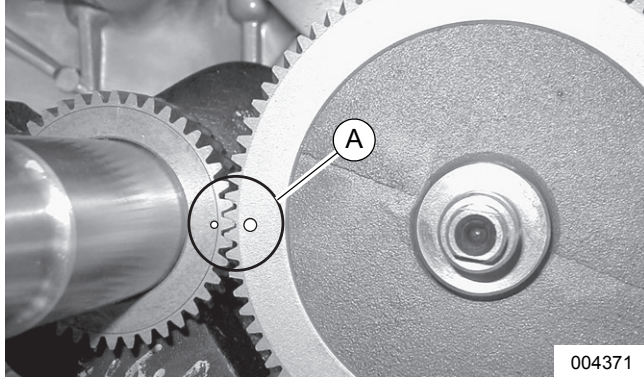

Figure 13-5. Installing Camshaft
3. See Figure 13-5. Align timing marks (A) on camshaft and crankshaft gear, and install camshaft.